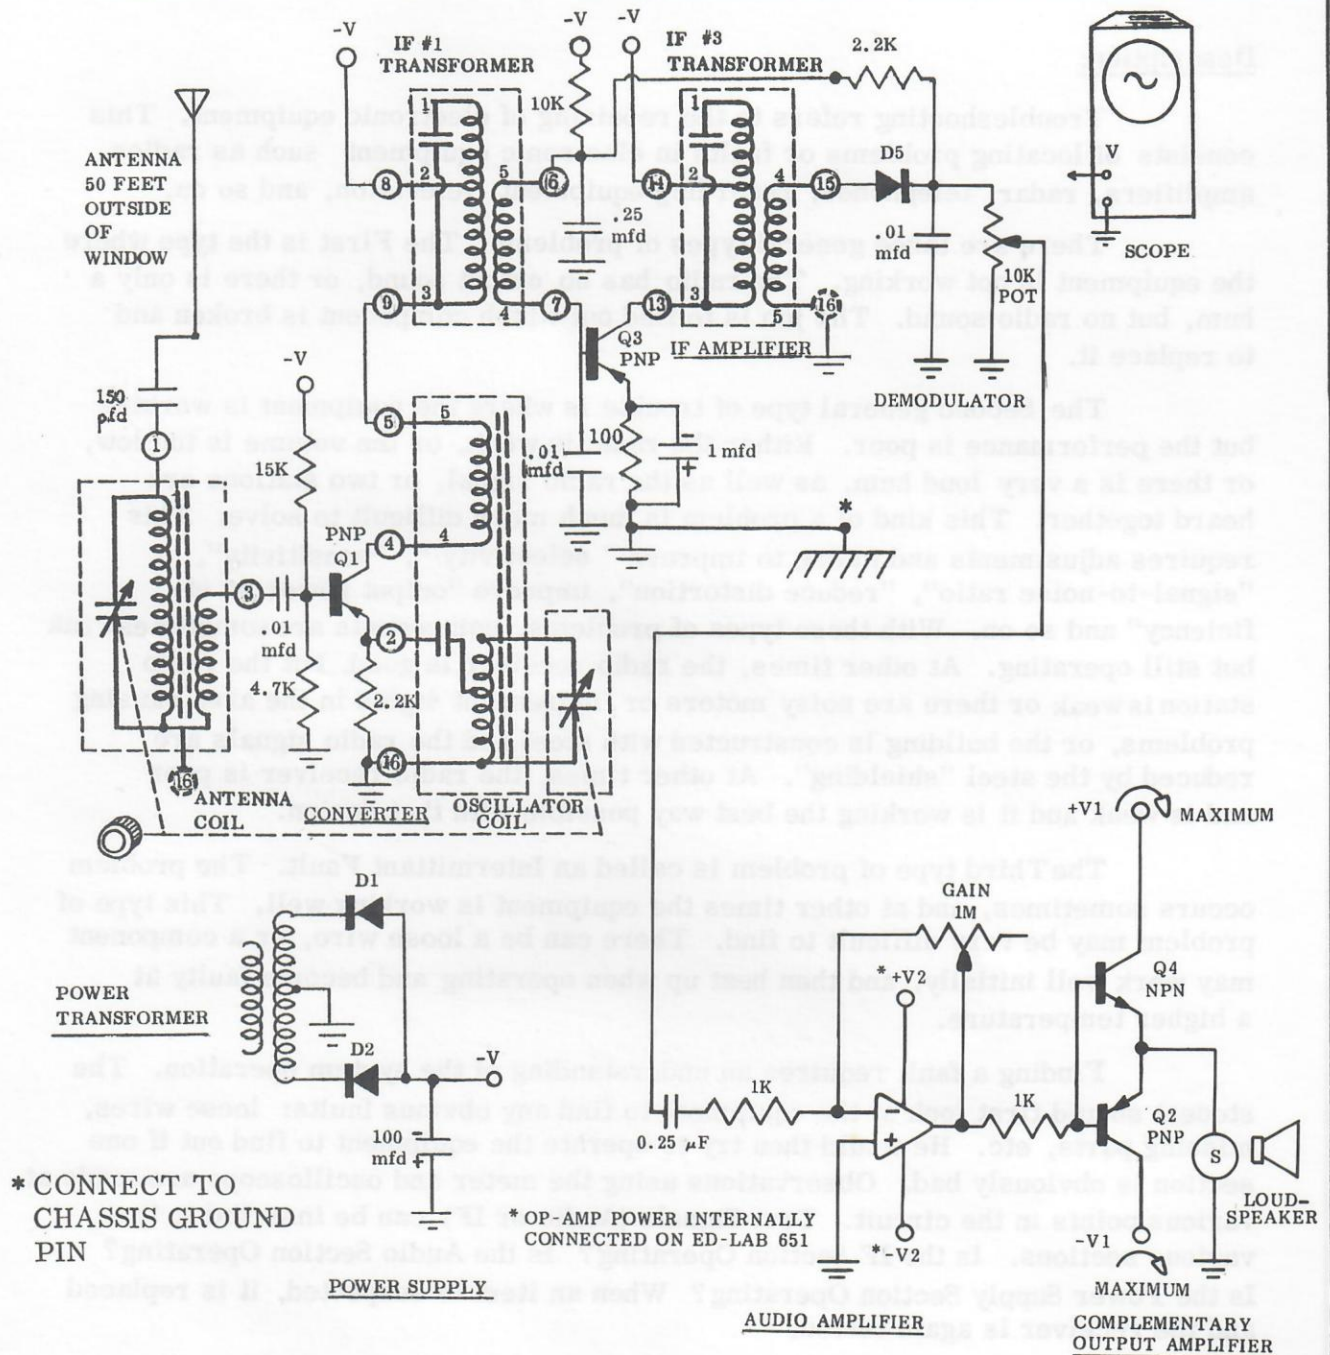

Figure 24 - 1 RECEIVER - TROUBLESHOOTING-EXPERIMENT
The Radio Receiver in Figure 24 - 1 includes a Complementary Output Driver and a Power Supply as well as the Superhet Radio.
1. Wire the circuit in Figure 24 - 1.